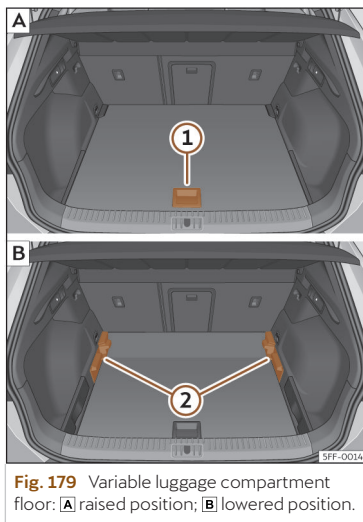

Fig. 179 Variable luggage compartment floor: **A** raised position; **B** lowered position.
- To move from the low position to the high position, lift the floor using the handle >>> **Fig. 179** (1), and pull it back until the front of the floor has fully passed the supports (2).
- Move the floor forward over the supports as far as the rear seat backrest and then lower the floor with the handle (1).
- To move from the high position to the low position, lift the floor using the handle >>> **Fig. 179** (1), and pull it back until the front of the floor has fully passed the supports (2).
- Now let the front part fall to the floor and slide the floor forwards as far as the rear seat backrest; lower the floor at the same time with the handle (1).
- Lift the variable floor in the high position using handle >>> Fig. 179 ①, pull it up and push it towards the backrest of the rear seats until it folds along the hinge line and the movable part of the floor is resting on itself.